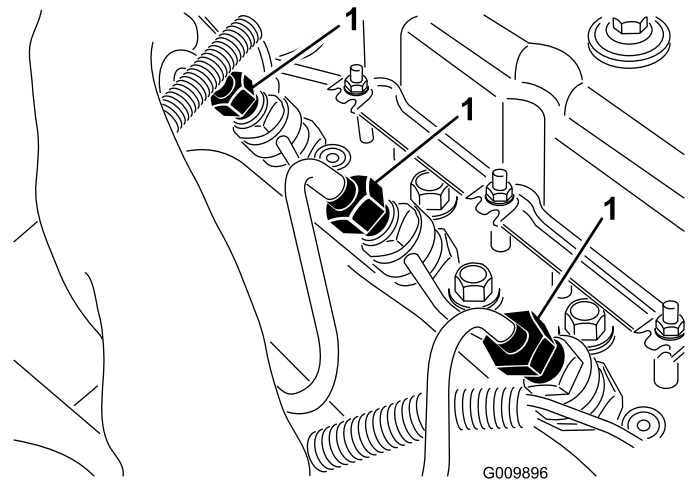

Figure 48
1. Loosen the pipe connection to one of the fuel injectors (Figure 48).